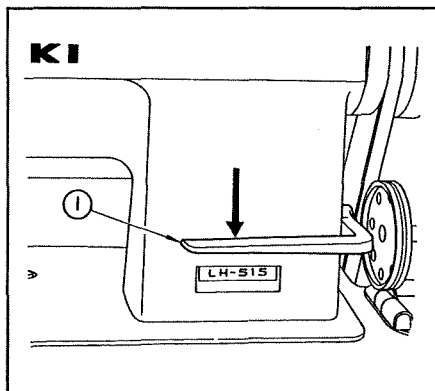

Fig. 16
To produce the reverse stitches, press down the feed lever ① Fig.16 fully until it is limited by the stopper. The reverse feed is kept as long as you press it.